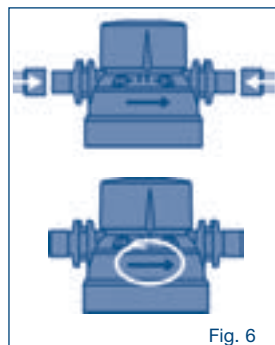

Fig. 6
- Observe the correct direction of flow (see Fig. 6).